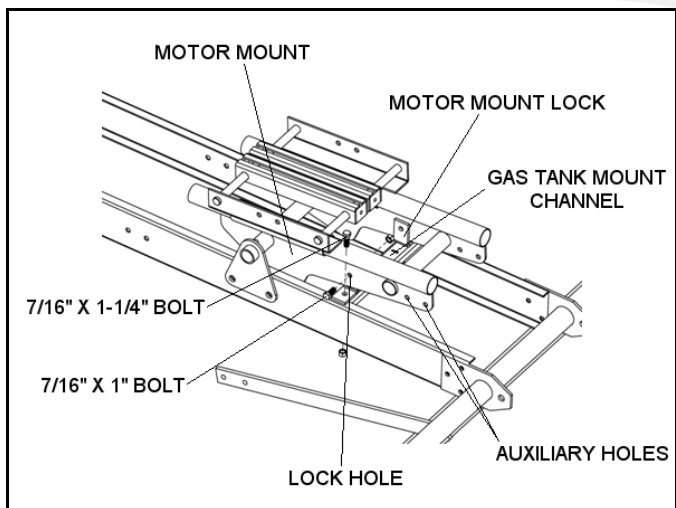

Figure 3.41
3. Place gas tank mount channel within frame and bolt to motor mount locks with two 7/16" x 1-1/4" bolts and locknuts. See Figure 3.41.